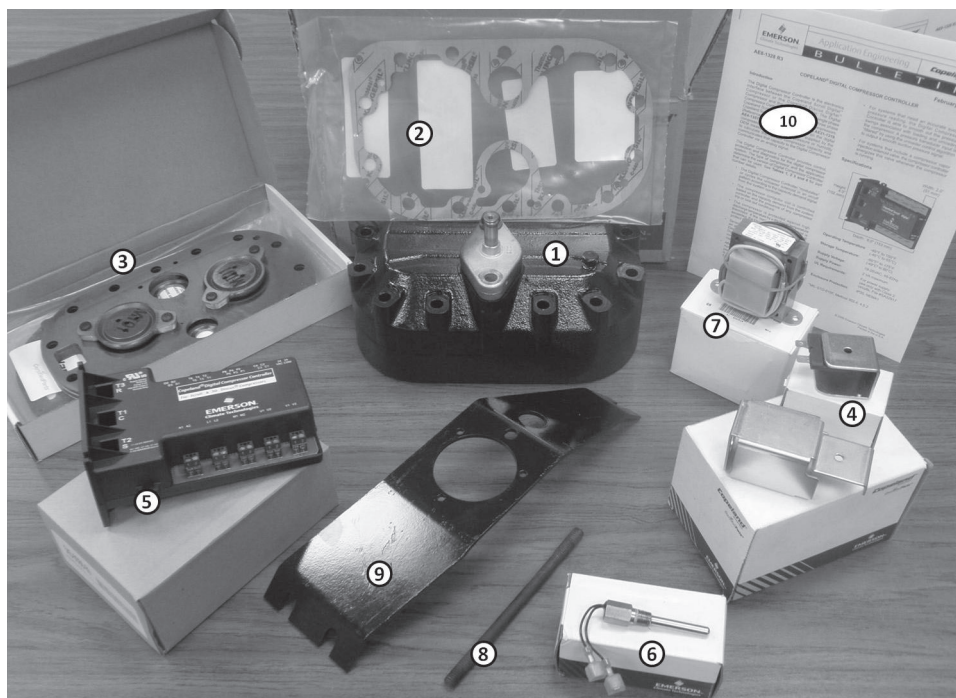

Figure 1 – Items in a Typical Discus Digital Upgrade Kit
with Intelligent Store Discus v2.1¹ and (2) what is the application? (e.g. low, or medium/high temperature) Based on this information, you have four different upgrade kits to choose from, seen in **Tables 1** and **2** on the following pages. Each upgrade kit includes a digital head, valve plate, gaskets, sensors, and high cycle solenoid coils. Each part is numbered and depicted in **Figure 1**. For further explanation of the kit pieces, refer to the Appendix of this bulletin.